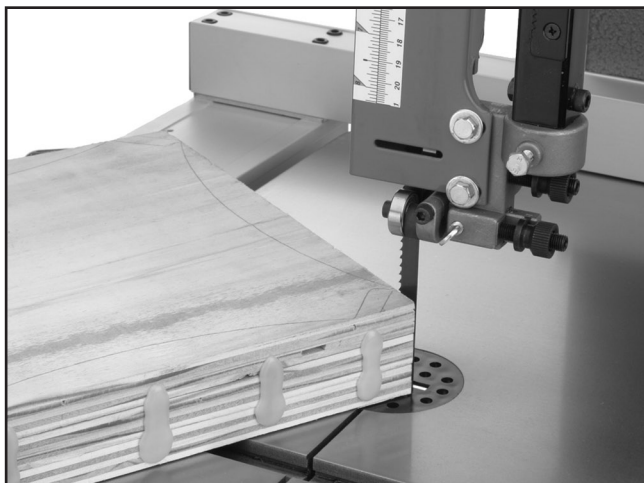

Figure 46. Typical stacked cut.
5. Cut the stack of pieces as though you were cutting a single piece. Follow your layout line with the blade kerf on the waste side of your line, as shown in **Figure 46**.